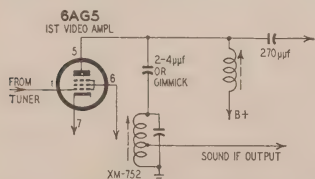

Fig. 1—Sound take-off point for 630 receivers using cascode front ends.
1. Replace the original RCA tuner with a Standard Coil cascode type and move the sound take-off point to the plate circuit of the first video i.f. amplifier as shown in Fig. 1. The sound take-off coil is a Standard Coil type XM-752 or equivalent.